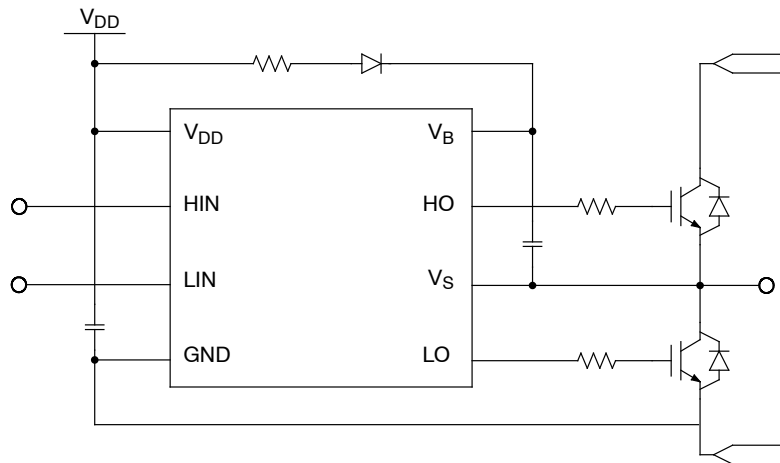

Figure 2. Simplified Application Schematics
| High-Side Offset Voltage (see Figure 2)   | $V_S$       | -900        | 900            | V    |
| High-Side Supply Voltage (see Figure 2)   | $V_B$       | -900        | 900            | V    |
| High-Side Output Voltage (HO) (see Figure 2)                                      | $V_{HO}$    | $V_S - 0.3$ | $V_{BS} + 0.3$ | V    |
| High-Side Offset Voltage (see Figure 2)      | $V_S$    | -800          | 800        | V    |
| High-Side Output Voltage (HO) (see Figure 2) | $V_{HO}$ | $V_S$         | $V_{BS}$   | V    |